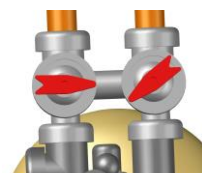

Figure 15: Opening bypass valve's inlet
- c. Slowly open the bypass valve's inlet to allow water to slowly enter the tank. (shown in figure 15).